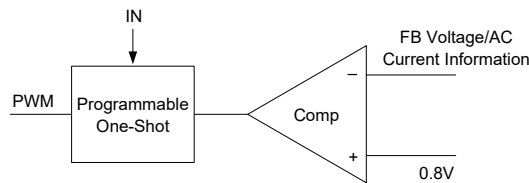

Figure 4. Simplified Control Schematic of AOZ2151PQI-05
The simplified control schematic is shown in Figure 4. The high-side switch on-time is determined solely by a one-shot whose pulse width is inversely proportional to input voltage (IN). The one-shot is triggered when the internal 0.8V is higher than the combined information of FB voltage and the AC current information of inductor, which is processed and obtained through the sensed lower-side MOSFET current once it turns-on. The added AC current information can help the stability of constant-on time control even with pure ceramic output capacitors, which have very low ESR. The AC current information has no DC offset, which does not cause offset with output load change, which is fundamentally different from other V^2 constant-on time control schemes.